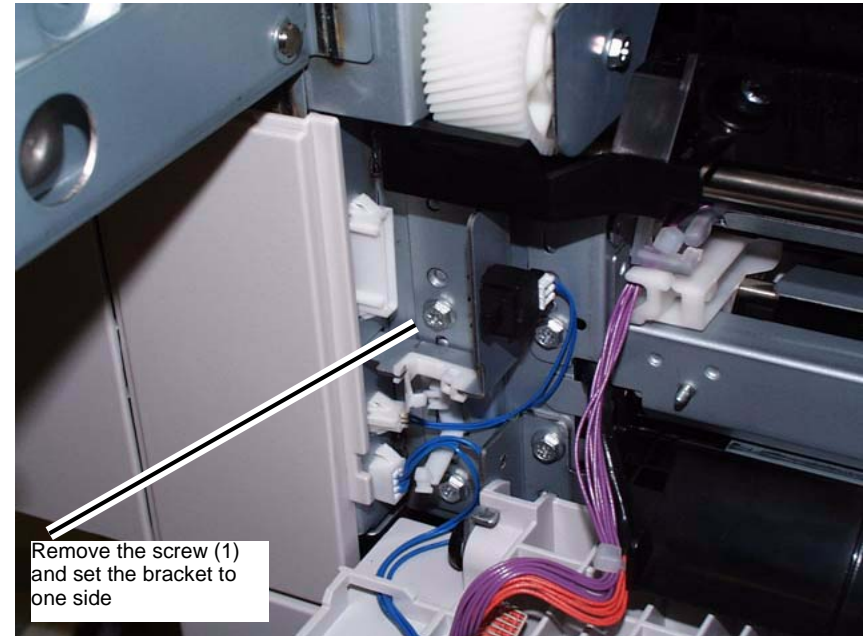

Figure 2 Moving the Sensor Bracket
7. Remove the screw from the sensor bracket and move the sensor bracket aside. (Figure 2)